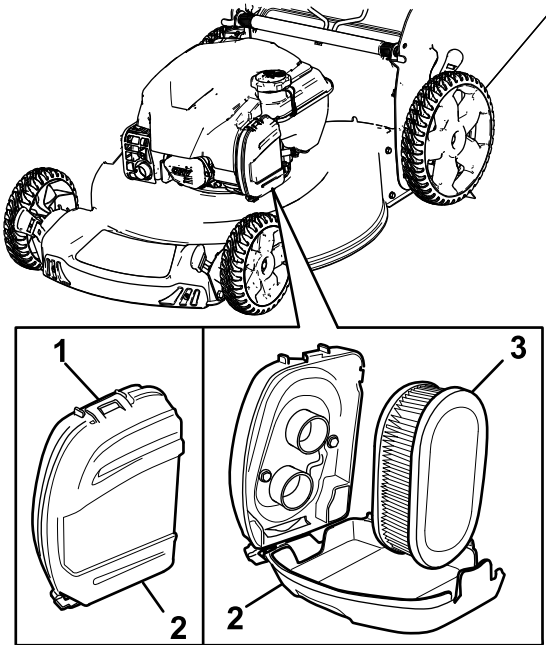

Figure 20
1. Unclip the top of the air-filter cover (Figure 20).
2. Remove the air filter (Figure 20).